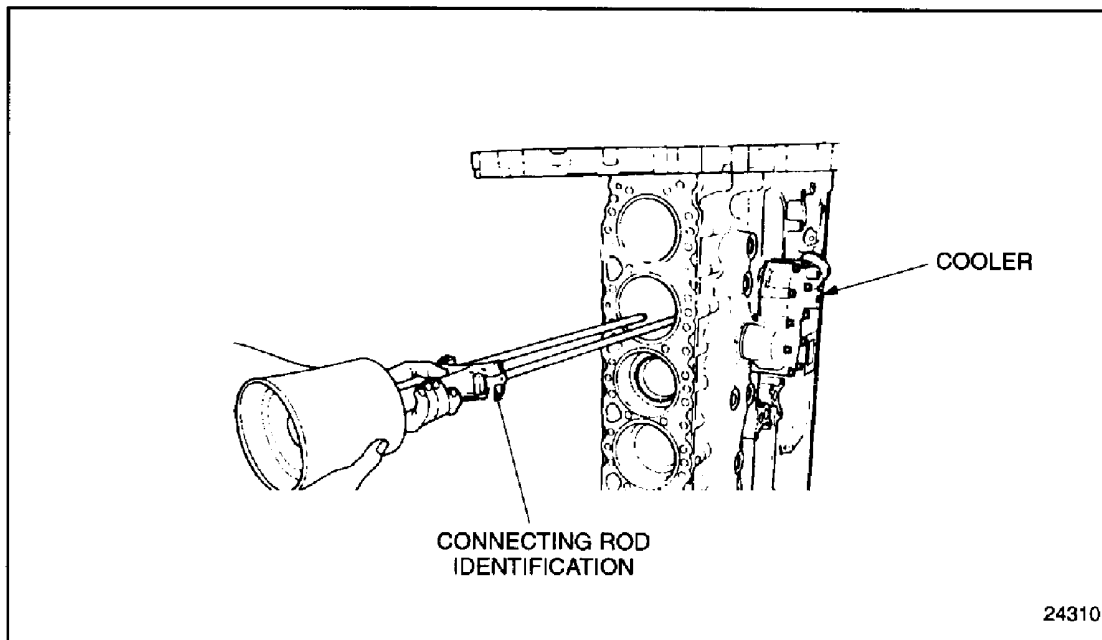

Figure 1-248 **Connecting Rod Indexing**
13. With the crankshaft throw in the bottom position, place the ring compressor and the piston and connecting rod assembly over the cylinder it is to be installed in, being sure the No. on the connecting rod is towards the cooler side of the engine. See Figure 1-248.